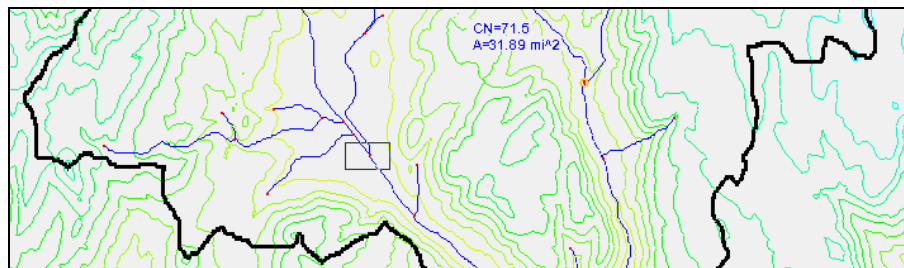

Figure 9 Zoom to the area indicated by the box on the right side
12. **Zoom**  in to the area shown in Figure 9.